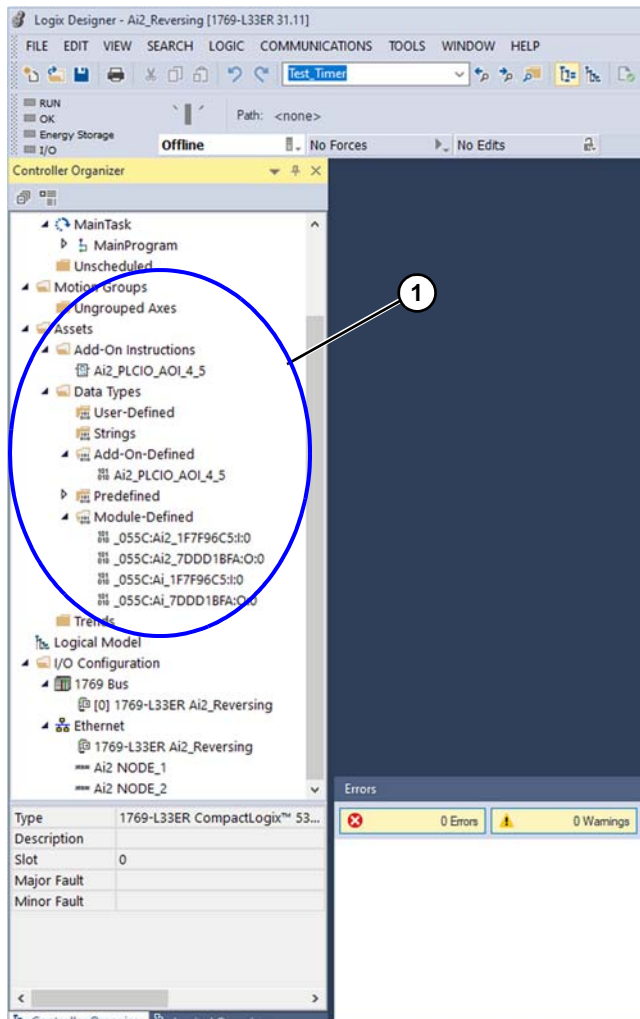

Figure 25
- Import them into the project (**Figure 25, item 1**)